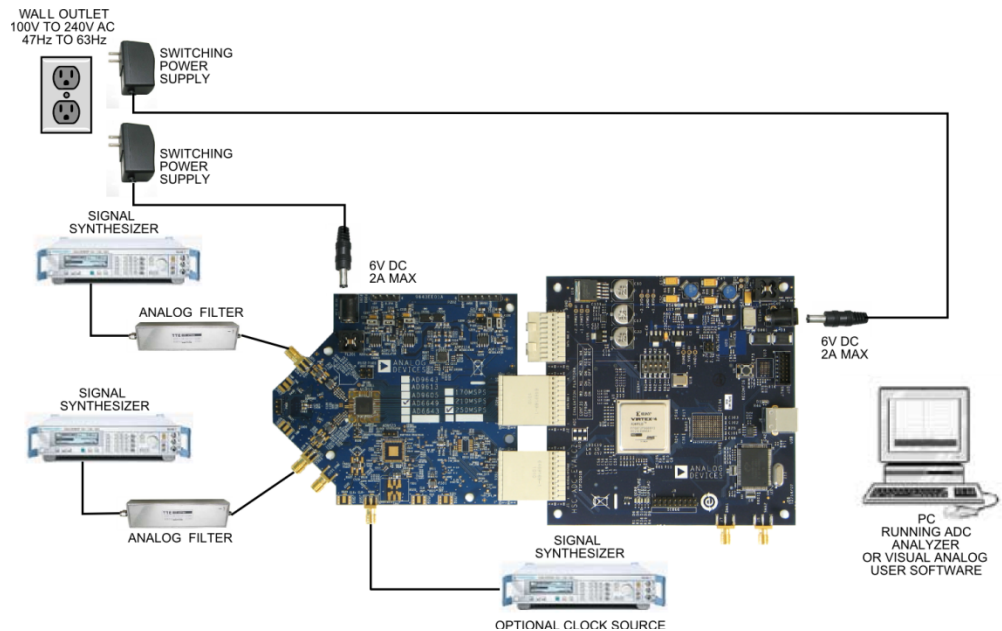

Figure 1: AD6643 Evaluation Board with HSC-ADC\_EVALCZ Data Capture Board
1. Connect the AD6643 evaluation board and the HSC-ADC-EVALCZ board together as shown in Figure 1.
9. Next open the SPI Controller software. If prompted for a configuration file, select the configuration file titled AD6643spiR03.cfg. If not, check the title bar of the window to see which configuration is loaded. If necessary, choose “Cfg Open” from the “File” menu and select one of the configuration files named above. Note that the CHIP ID(1) field may be filled whether the correct SPI Controller configuration file is loaded or not.
11. Set the DCO Clk Delay Enable checkbox in the FLEXOUTPUT DELAY(17) panel on the ADCBase0 tab as shown below. In addition, set the DCO Clk Delay register to the ‘600ps